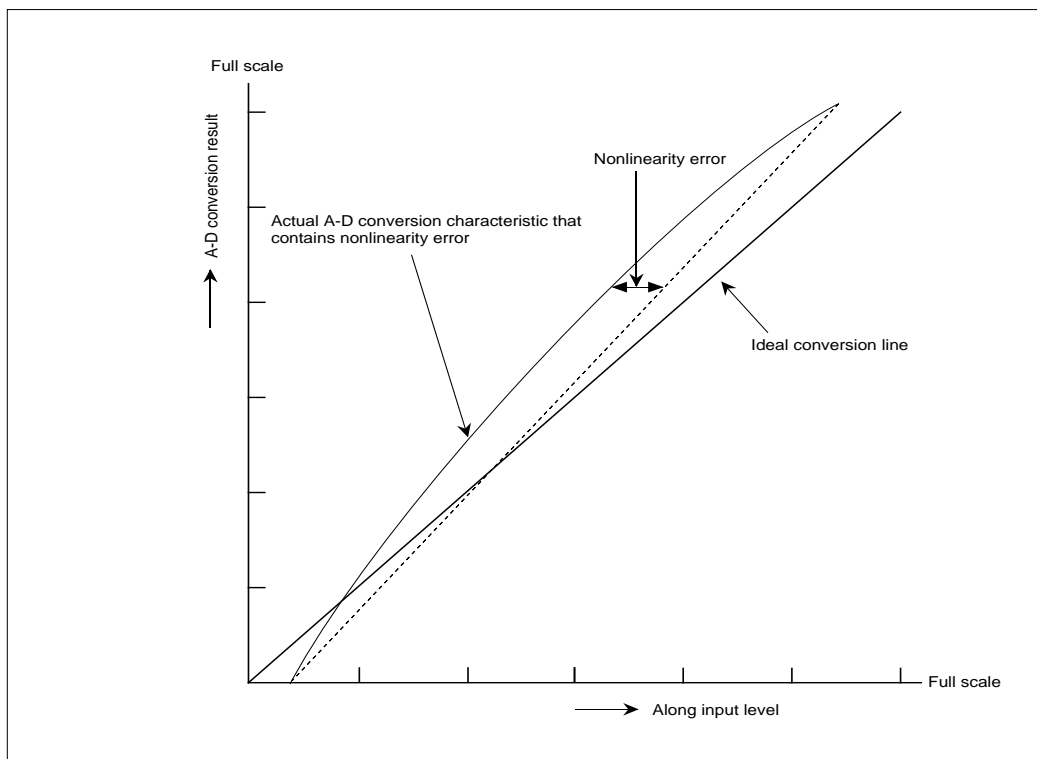

Figure 11.3.5 A-D Converter's Nonlinearity Error
- (1) Resolution Number of digital converted codes output by the A-D converter
- (2) Nonlinearity error Deviation from ideal conversion characteristics after the offset and full-scale errors are adjusted to 0. (Figure 11.3.5)